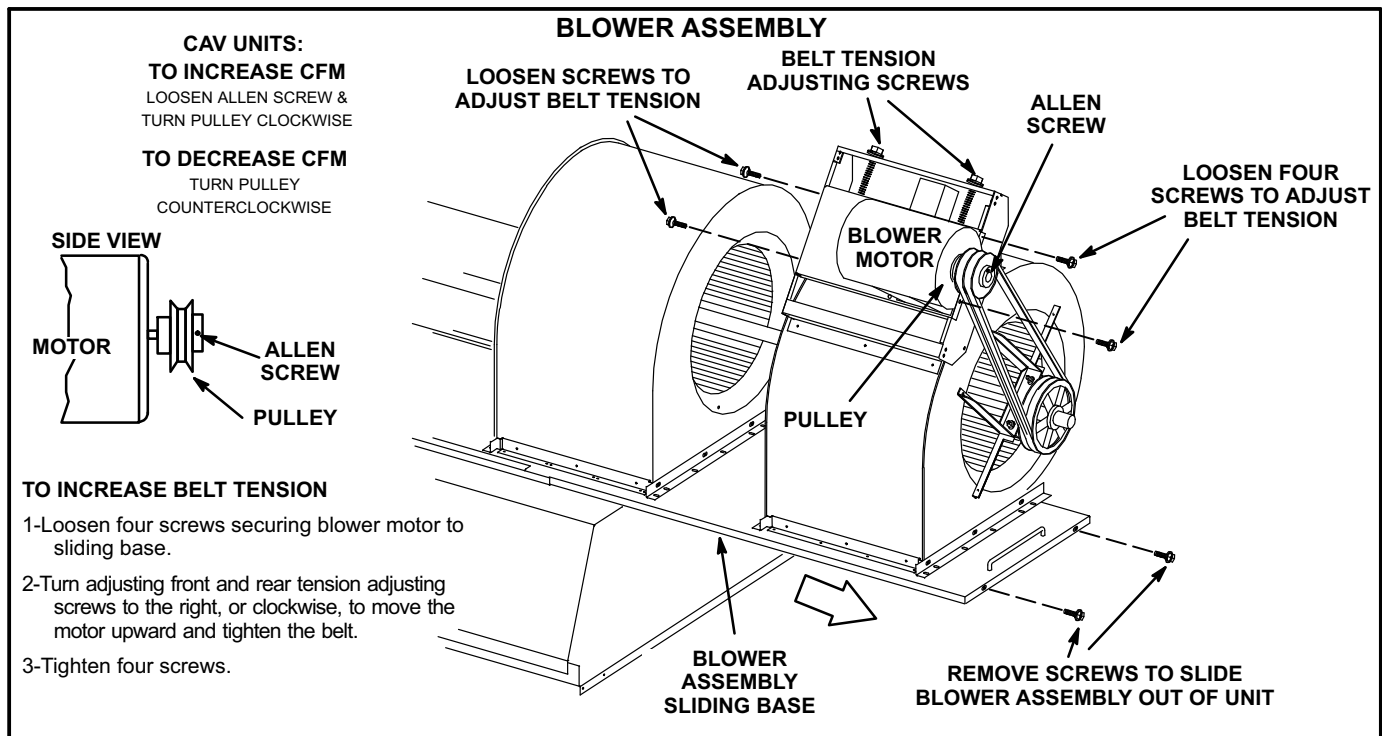

FIGURE 15
- 2- Remove screws on either side of blower assembly sliding base. See figure 15.
4- The blower RPM can be adjusted at the motor pulley. Loosen Allen screw and turn adjustable pulley clockwise to increase CFM. Turn counterclockwise to decrease CFM. See figure 15. Do not exceed minimum and maximum number of pulley turns as shown in table 3.
- 1- Loosen four screws securing blower motor to sliding base. See figure 15.
- 5- If tensioner pulley is past 7 o'clock when secured, The distance between the motor and blower pulleys need to be increased. Refer to the steps in figure 15 to increase belt tension.